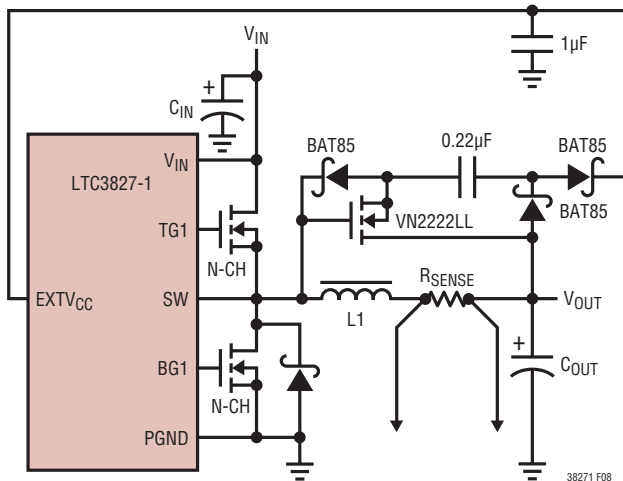

Figure 8. Capacitive Charge Pump for EXTV_{CC}
- EXTV_{CC} Connected to an Output-Derived Boost Network. For 3.3V and other low voltage regulators, efficiency gains can still be realized by connecting EXTV_{CC} to an output-derived voltage that has been boosted to greater than 4.7V. This can be done with the capacitive charge pump shown in Figure 8.